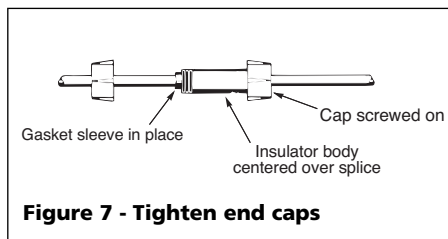

Figure 7 - Tighten end caps
7. Center insulator body over splice and slide gasket sleeves into body as far as they will go. Screw caps onto insulator body (Figure 7) and tighten by hand for a strong, waterproof splice.